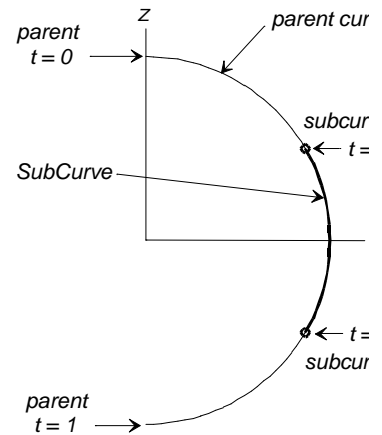

Fig. 6
- 1 **Open SUBCURVE1.ms2** (Fig. 6).